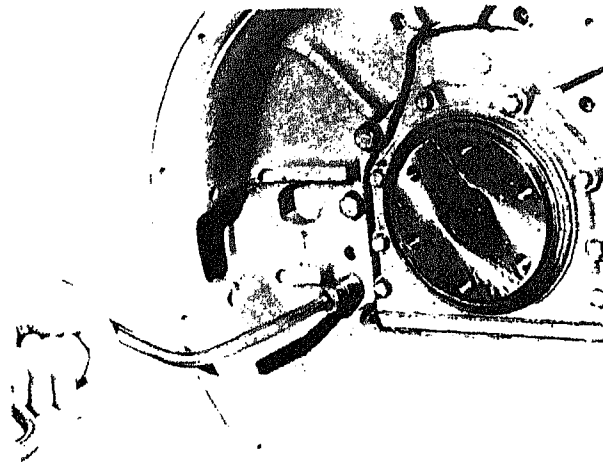

Fig. 0-40. Removing flywheel housing capscrews
1. Remove capscrews, lockwashers and flatwashers securing flywheel housing to oil pan; remove capscrews, lockwashers and flatwashers securing housing to block, Fig. 0-40.